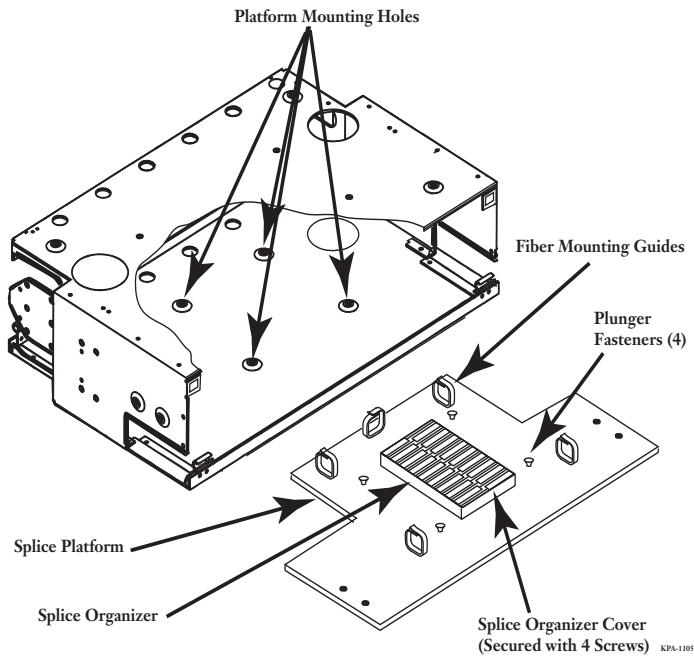

Figure 13 — LDC-SMH-216 Housing
**Step 2:** Install the fiber routing clips into the platform (Figure 13).